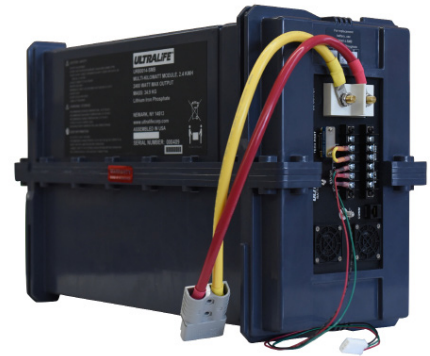

Figure 23. MKM URB0014 Battery
- (1) 02-1000057, MKM Replacement Battery (Figure 23)